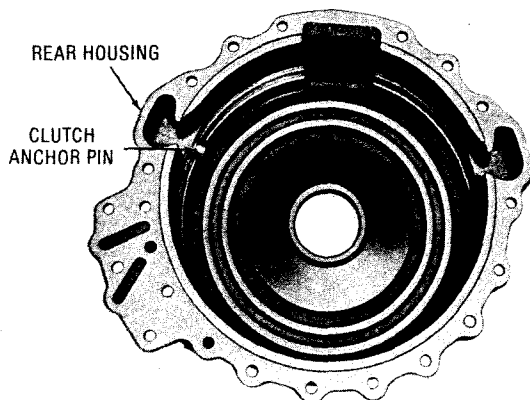

Fig. 7-42. Rear housing and piston assembly (TRT-1)
(1) Install the clutch anchor pin into the rear housing (as rebuilt in paragraph 6-11). Leave the flat-milled end of the pin extending at the inside of the housing (fig. 7-42).